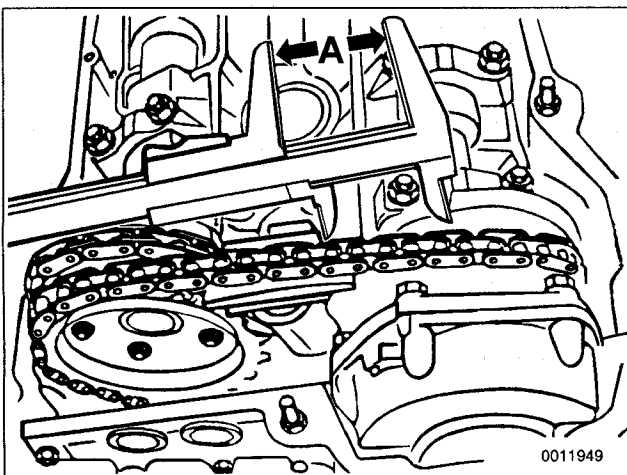

Fig. 37. VANOS reference measurement (dimension A) between trigger plate (sender gear) and side of secondary chain tensioner.
10. Measure and record distance between trigger plate edge and side of secondary timing chain tensioner. See Fig. 37.
12. With solenoid actuated, measure and record new distance between trigger plate edge and side of secondary timing chain tensioner, as shown in Fig. 37.